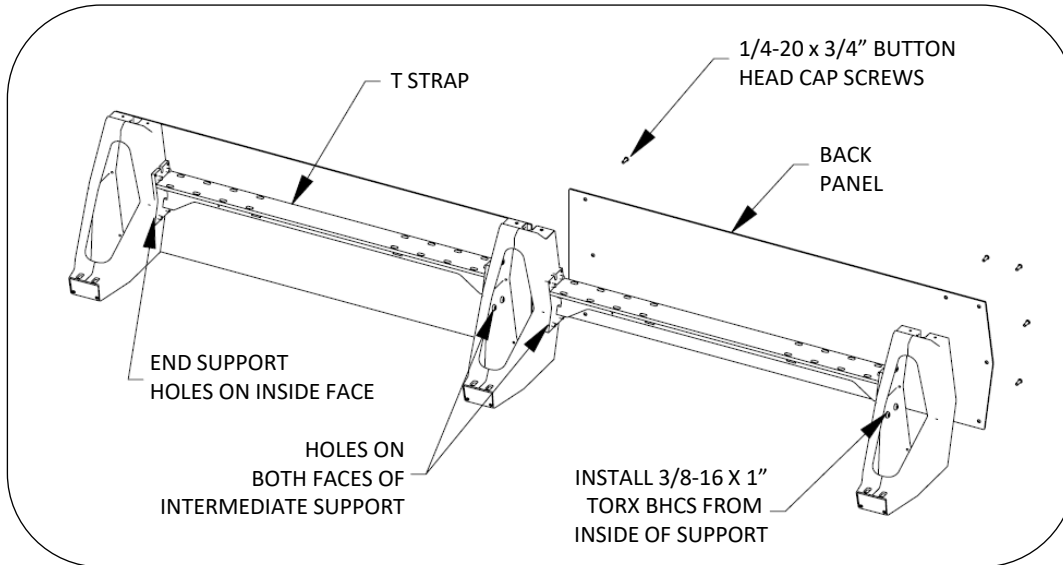

Fig. 2
2. Install T-straps and tighten hardware, see Fig. 2.
3. Attach back panels to supports, see Fig. 2. Back panels should be flush with each other.